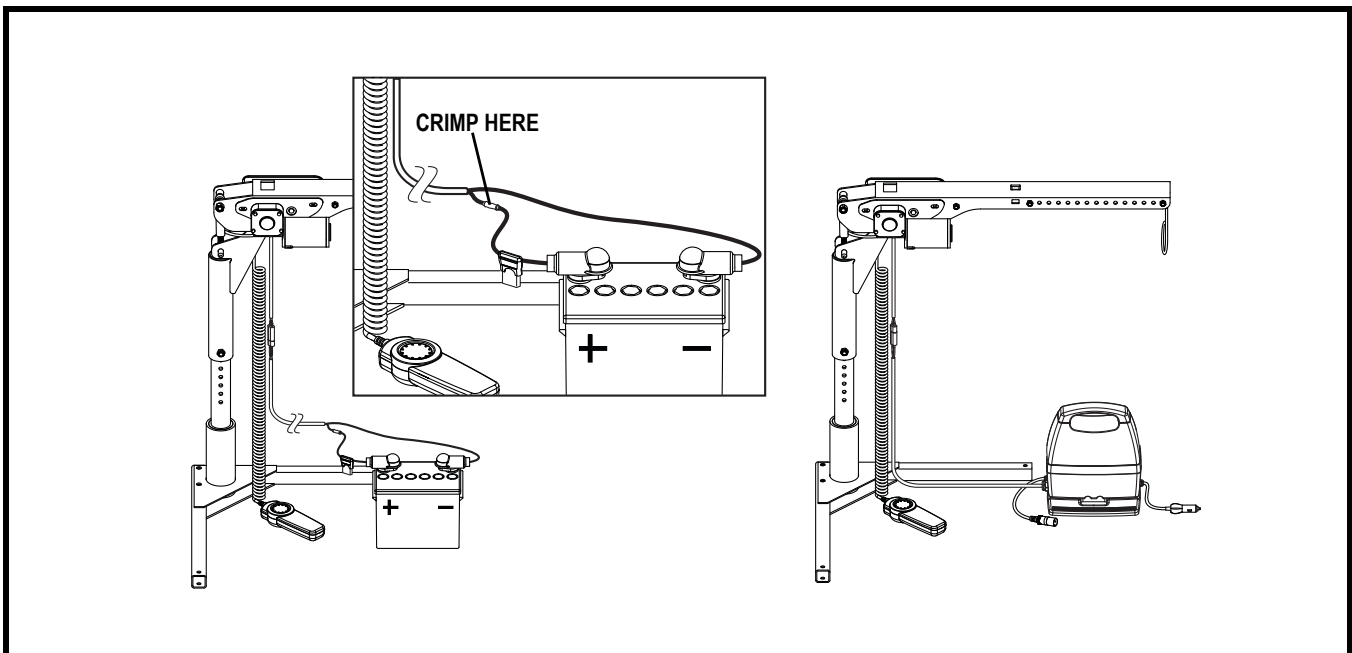

Figure 5. Electrical Wiring Connections
1. Route the hard wire kit (starting at the lift) through the interior of the vehicle until you reach the automobile battery. See figure 5. Conceal the wire behind or under the interior panels. Be certain that the wire is protected with a rubber grommet when passing it through the metal panels and into the engine compartment. Inside the engine compartment, secure the wire to the fire-wall and the inner fender with the supplied plastic wire ties. Use care not to cause abrasions to the power wire. It is important to secure the power wire at various points along its run.